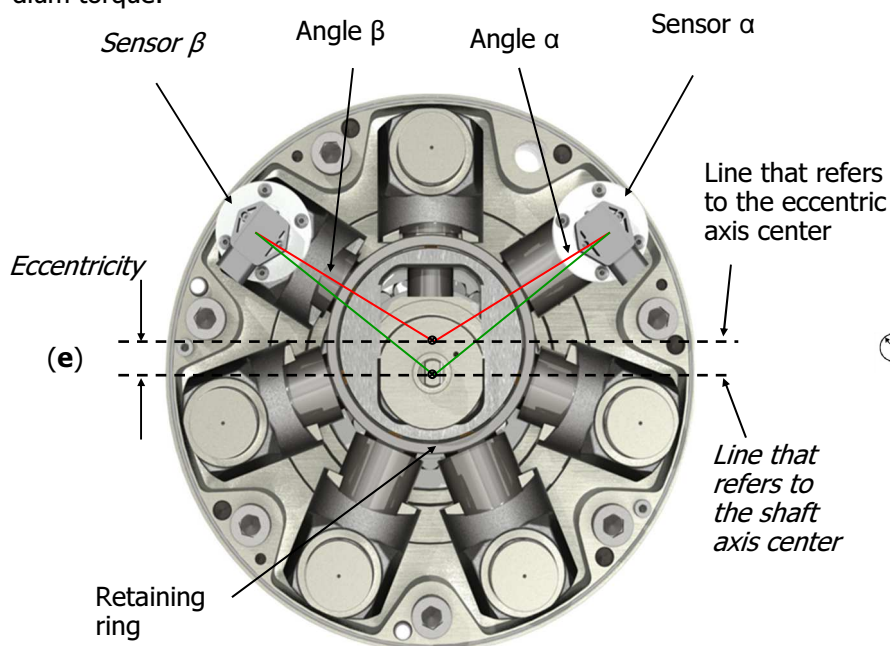
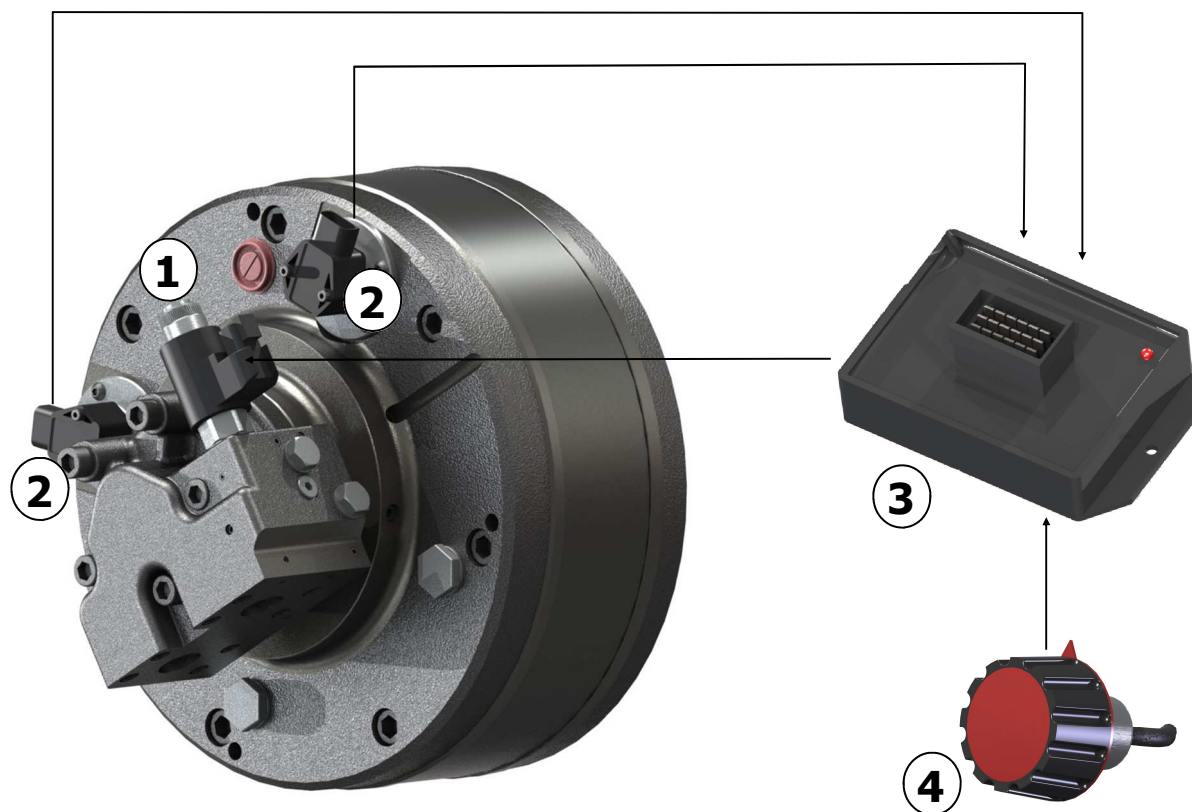

Fig.1: Symbols and nomenclature
Fig.4: Main electronic components
Referring to the figure 4, the angular sensors Alpha and Beta (2), which are positioned on two cylinders, detect the cylinders' angular position with respect to the straight line that intersects the trunnions rotation axis with the shaft axis (see also the Alpha and Beta angles in Fig.1). This allows to determine the value of the eccentricity and consequently the value of the displacement, by using an implemented algorithm in the controller (3).